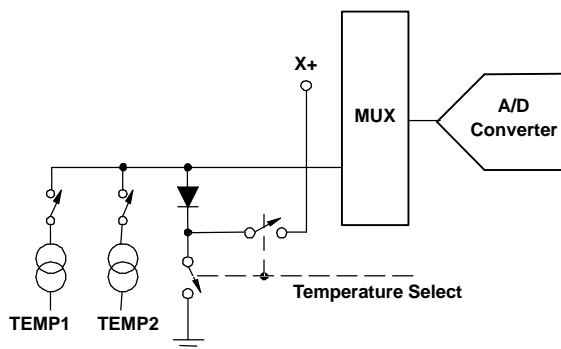

Figure 61. Functional Block Diagram of Temperature Measurement Mode
The TSC2301 offers two modes of temperature measurement. The first mode requires calibration at a known temperature, but only requires a single reading to predict the ambient temperature. A diode, as shown in Figure 61, is used during this measurement cycle. The voltage across this diode is typically 600 mV at 25°C while conducting a 20-μA current. The absolute value of this diode voltage can vary several millivolts, but the temperature coefficient (TC) of this voltage is very consistent at -2.1 mV/°C. During the final test of the end product, the diode voltage would be measured by the TSC2301 ADC at a known room temperature, and the corresponding digital code stored in system memory, for calibration purposes by the user. The result is an equivalent temperature measurement resolution of 0.3°C/LSB. This measurement of what is referred to as Temperature 1 is illustrated in Figure 62.